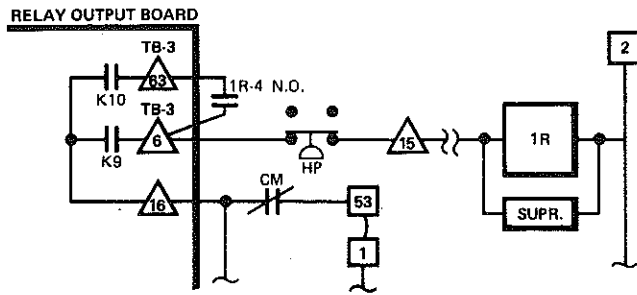

FIG. 18 — RELAY OUTPUT BOARD
TB3-6 – Motor starter contacts (Ref. Fig. 18). Part of 1R (start relay) anti-chatter circuit. After the 30 second pre-lube (**START SEQUENCE INITIATED**) the Micro Board energizes K9 and K10 coincident with the Micro Board going into “RUN” mode (**SYSTEM RUN LEAVING TEMP CONTROL**). 1R is energized thru K9 contacts causing 1R-4 contacts to close creating a holding circuit thru 1R-4 and K10 contacts. After 200 milliseconds, the Micro Board de-energizes K9. 1R remains energized thru 1R-4 and K10 contacts. If 1R fails to energize or if it de-energizes at any time while the Micro Board is in **SYSTEM RUN LEAVING TEMP CONTROL**, 1R cannot again energize until K9 is again energized at completion of **START SEQUENCE INITIATED** (the next chiller start). When 1R de-energizes while **SYSTEM RUN-LEAVING TEMP CONTROL** is displayed the Micro Board senses a loss of motor current (for 25 continuous seconds) and shuts down the chiller and displays **AC UNDER-VOLTAGE-AUTOSTART**. Refer to explanation of this message in MicroComputer Control Center operating manual Form 160.46-O1.1
TB3-63 – Motor starter stop contacts (Ref. Fig. 18). Part of 1R (start relay) anti-chatter circuit. 115VAC when Micro Board is commanding the compressor motor to run and the motor controller contacts (CM) are closed. Refer to explanation of TB3-6.